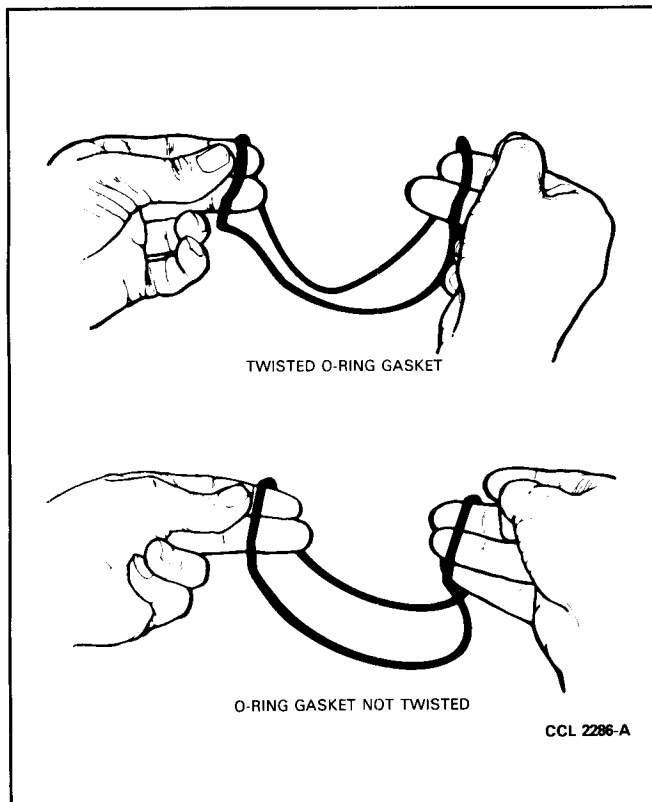

FIG. 11 O-Ring Gasket Check
2. Check the New O-ring gasket to be sure it is not twisted (Fig. 11).